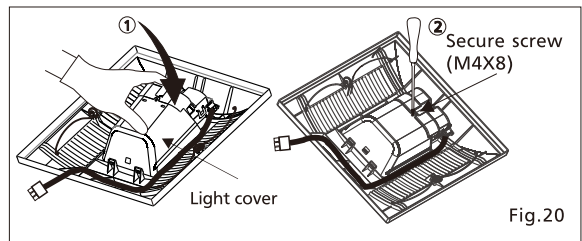

Fig. 20
6. Reinstall the light cover.(Fig.20)